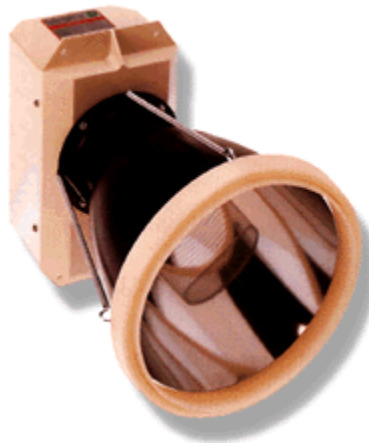

Figure 3 - Basic Sulfur HID Light
- Figure 3 – Basic Sulfur HID Light
The basic sulfur HID light (**Figure 3**) may be used for small area lighting, such as in an entryway or along a sidewalk. A reflector directs the light onto the area being illuminated.